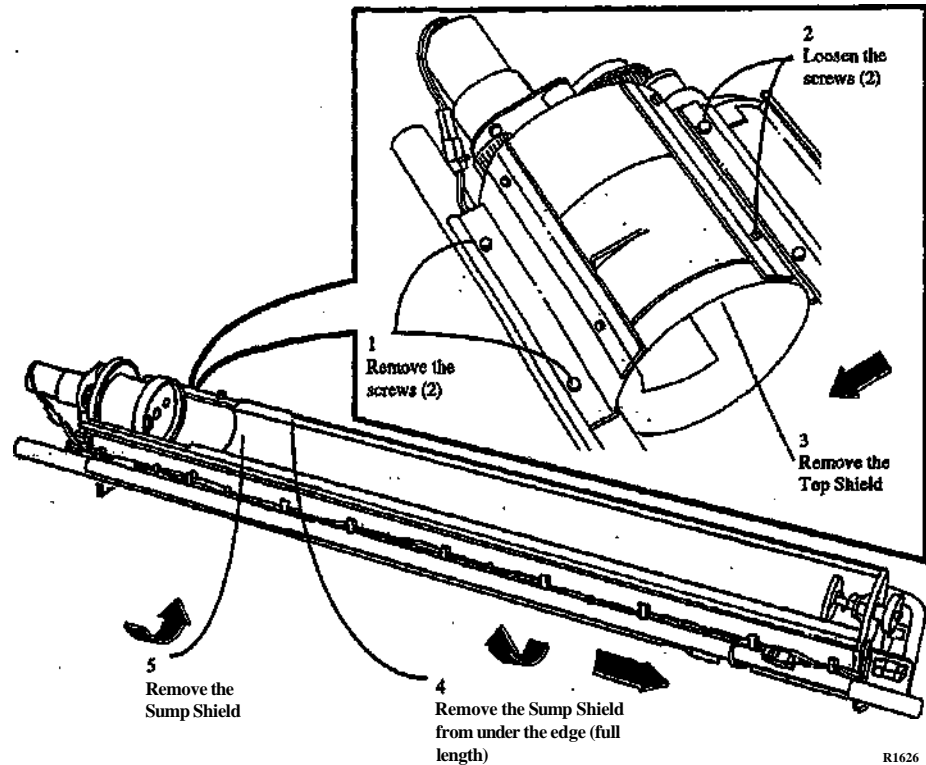

Figure 1. Removing the Sump Shield from the Developer Module
2. (Figure 1): Remove the Sump Shield.